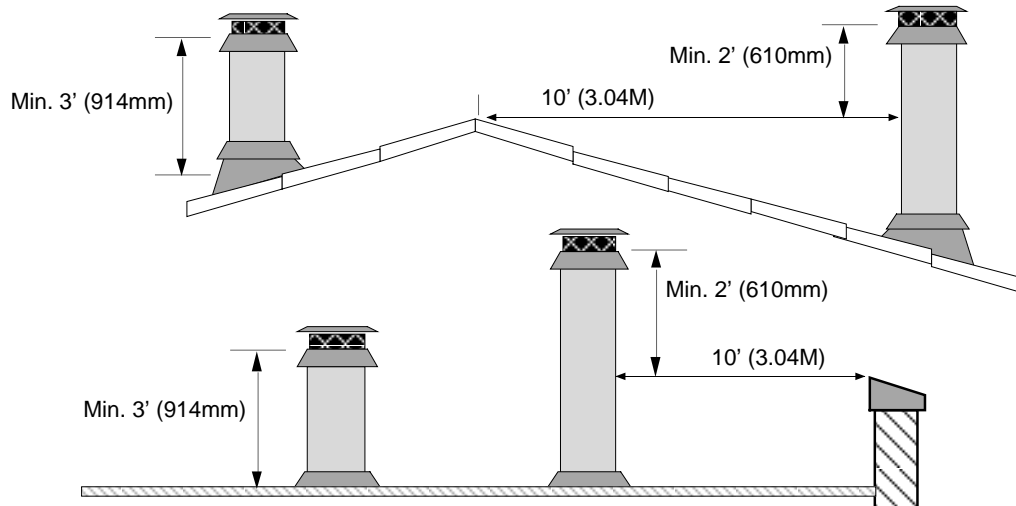

Figure 5
- Must terminate at least 3' (914mm) above the roof and at least 2' (610mm) above any portion of the roof within 10' (3.04M) - see Figure 5.